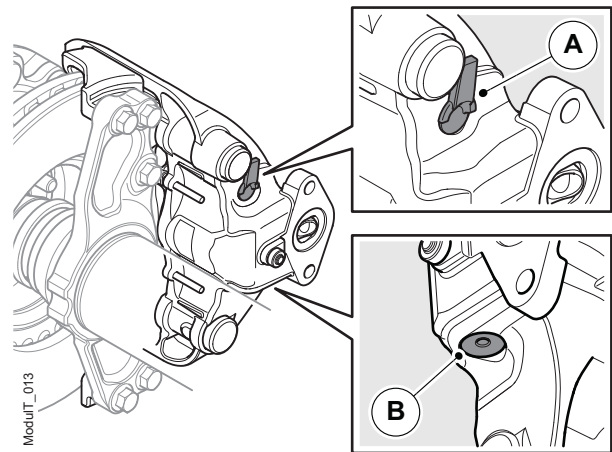

Figure 19. The two protection plugs
The reset shaft protection plug identified as (A) and calliper seal (B), see figure 19.